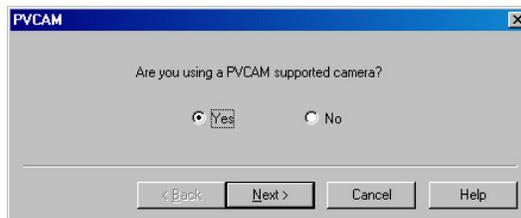

Figure 35. Hardware Wizard: PVCAM dialog
11. When the PVCAM dialog (Figure 35) is displayed, click in the **Yes** radio button, click on **Next** and continue through the Wizard. After the Wizard is finished, the **Controller/Camera** tab card will be displayed with the **Use PVCAM** checkbox selected. You should now be able to acquire data.